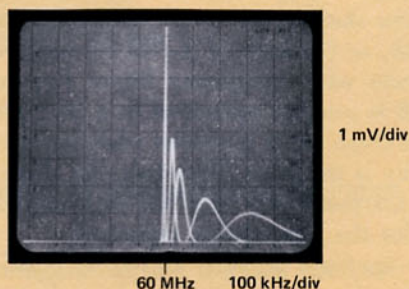

Figure 1.22 When scan time gets shorter and shorter, displayed amplitude gets less and less, and apparent bandwidth gets wider and wider.
6. Uncalibrated situations should be indicated by an uncal warning light, or avoided by automatic adjustment of the sweep time for any setting of the video or IF bandwidth or frequency sweep width (See Figure 1.22).
Figure 1.22 shows the effects of scanning too fast. When the scan time gets too fast for amplitude calibration, the displayed amplitude decreases and the apparent bandwidth increases. Consequently, frequency resolution gets worse.